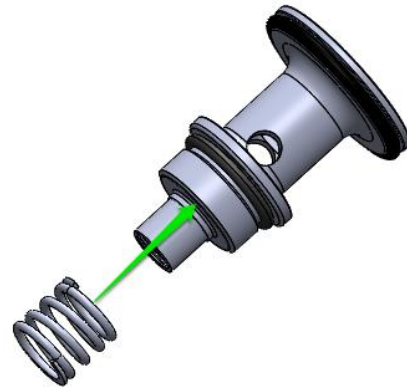

Fig. 35
- b. Apply a very light film of lubricant to both ends of the spring 6512 and the lower 1/4" of the shaft of the HP poppet 6495. Install the spring 6512 onto the end of the receiver 8041.8(Fig. 35).